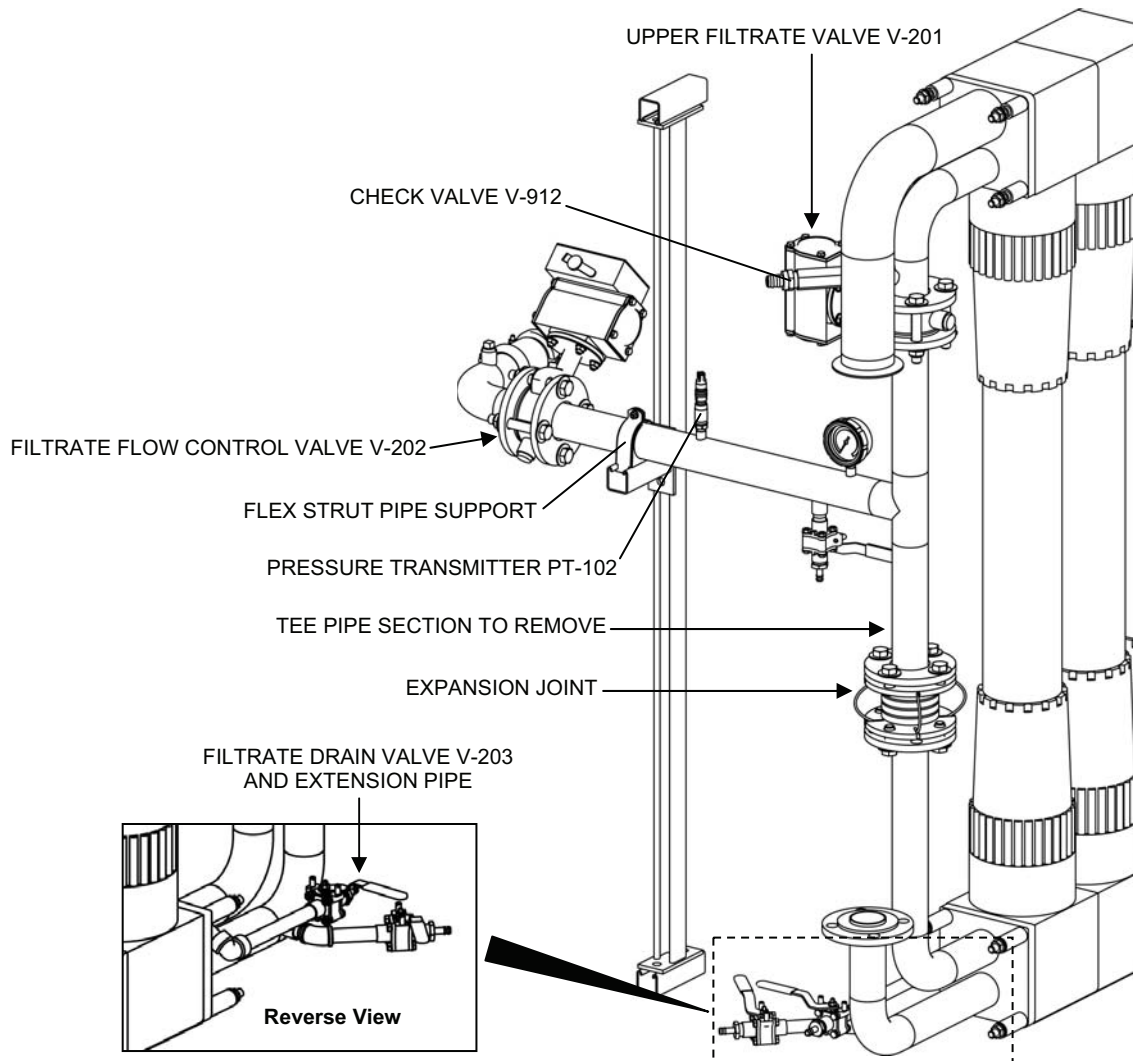

Figure 3. MF Filtrate Valve and Pipe Section Removal.
3. Remove the following MF filtrate components from the MF assembly (see Figure 3):